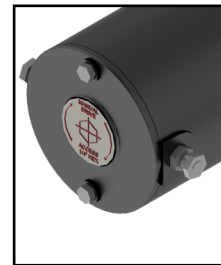

Fig. 35
- A. Landing Gear - Valve located on the lead landing gear (Fig.35).